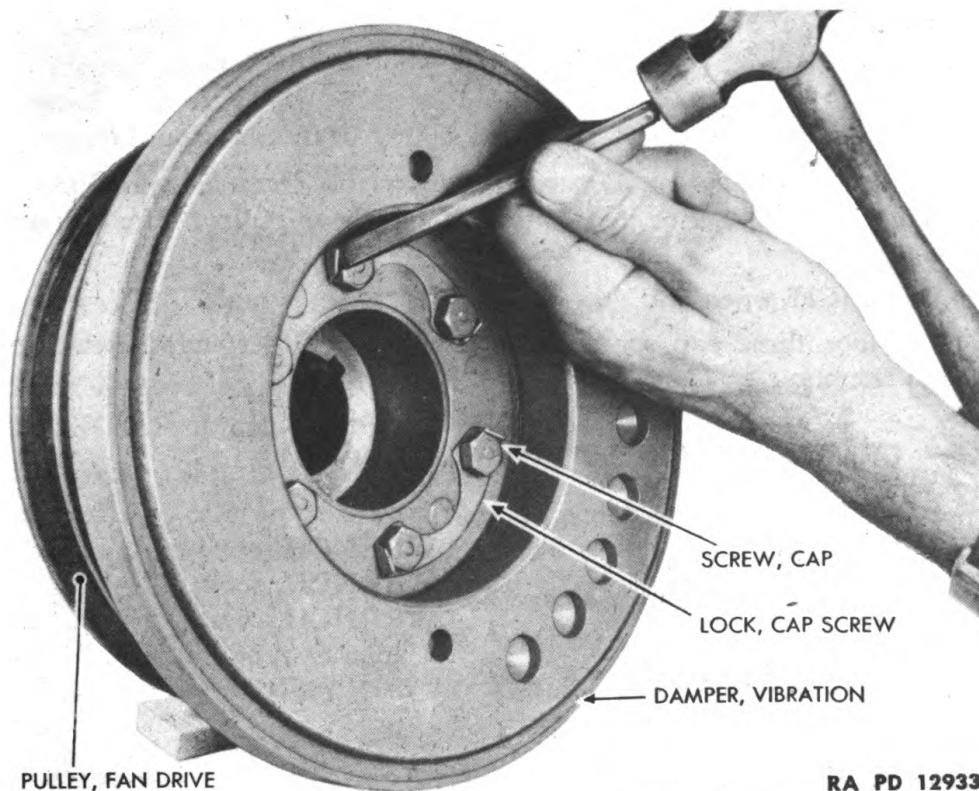

Figure 125—Removal of Vibration Damper from Fan Drive Pulley
(3) SEPARATE VIBRATION DAMPER FROM FAN DRIVE PULLEY (fig. 125).